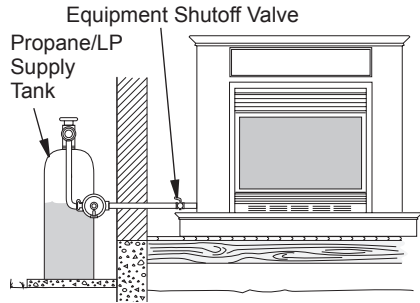

Figure 25 - Checking Gas Joints Shown with Optional Mantel (Propane/LP Gas)
3. Check all joints from gas meter for natural or propane/LP supply to equipment shutoff valve (see Figures 25 and 26). Apply a noncorrosive leak detection fluid to gas joints. Bubbles forming show a leak.
4. Check all joints from equipment shutoff valve to thermostat gas valve (see Figures 25 and 26). Apply a noncorrosive leak detection fluid to gas joints. Bubbles forming show a leak.